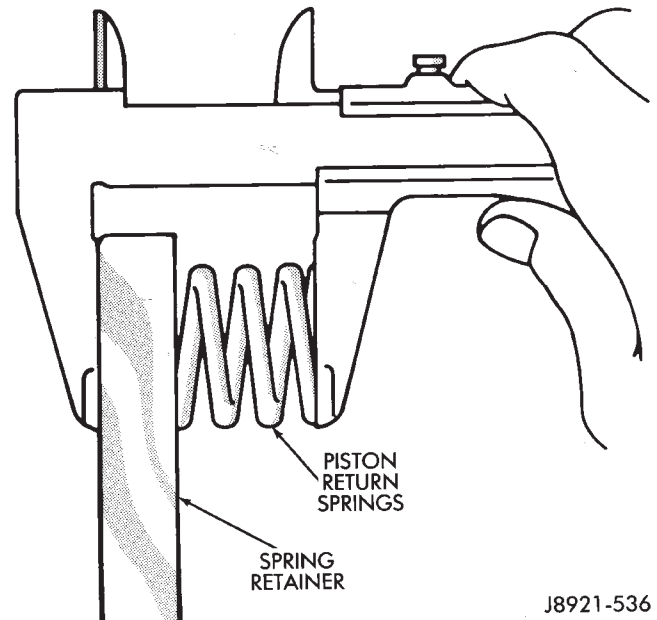

Fig. 6 Measuring Second Brake Piston Return Springs
(7) Remove and discard brake piston O-rings.
(8) Measure free length of piston return springs with springs mounted in retainer (Fig. 6). Length should be approximately 16.05 mm (0.632 in.). Replace return springs if length is less than specified.